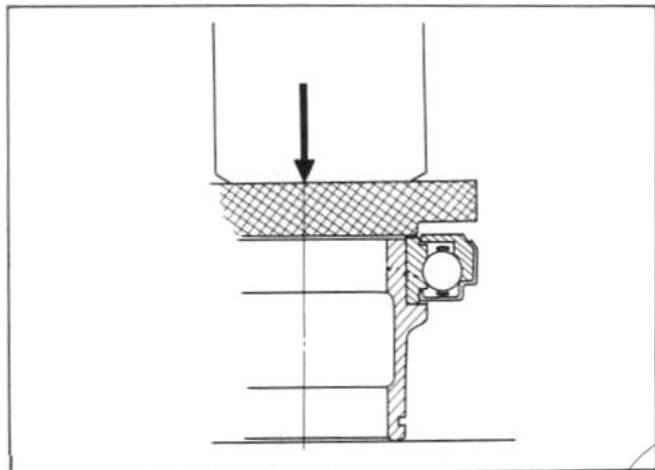

Fig. CL-9 Fitting release bearing
1. Tightly fit the release bearing to the place on the bearing sleeve as shown in Figure CL-9. When the bearing is installed completely, turn the bearing with a finger, and make sure that the bearing operates smoothly.